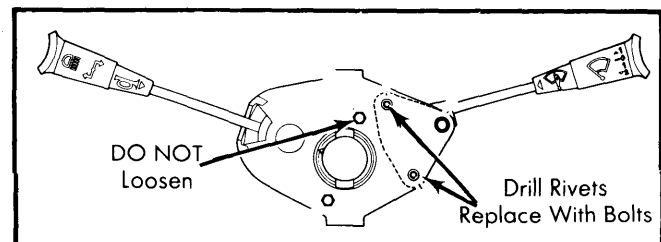

Fig. 2 Removing Wiper Switch From Combination Switch. Remove Screws and Rivets as Shown.
2) To service the wiper switch, drill out the 2 rivets. Do not remove screws near center hole in switch. Remove the switch lever pivot screw, then remove switch. See Fig. 2.